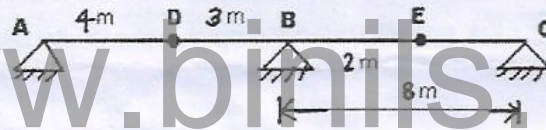

Fig. 2
16. (a) A beam ABC is supported at A, B and C as shown in Fig 2. It has the hinge at D. Draw the influence lines for
- Reactions at A, B and C (5)
- Shear to the right of B (5)
- Bending moment at E. (5)